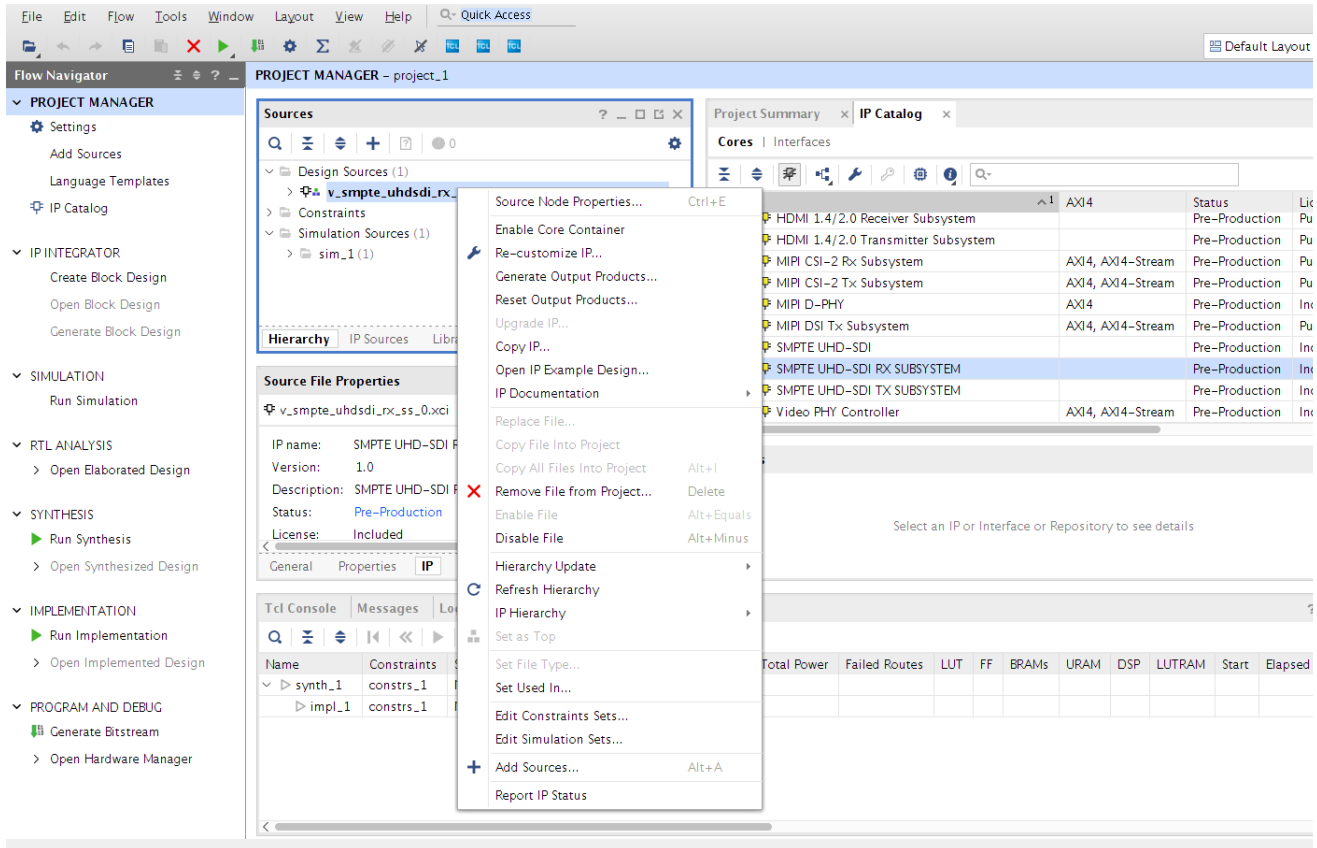

Figure 5-16: Open IP Example Design
- Right-click the SMPTE UHD-SDI RX Subsystem component under Design source, and click **Open IP Example Design**, as shown in Figure 5-16.